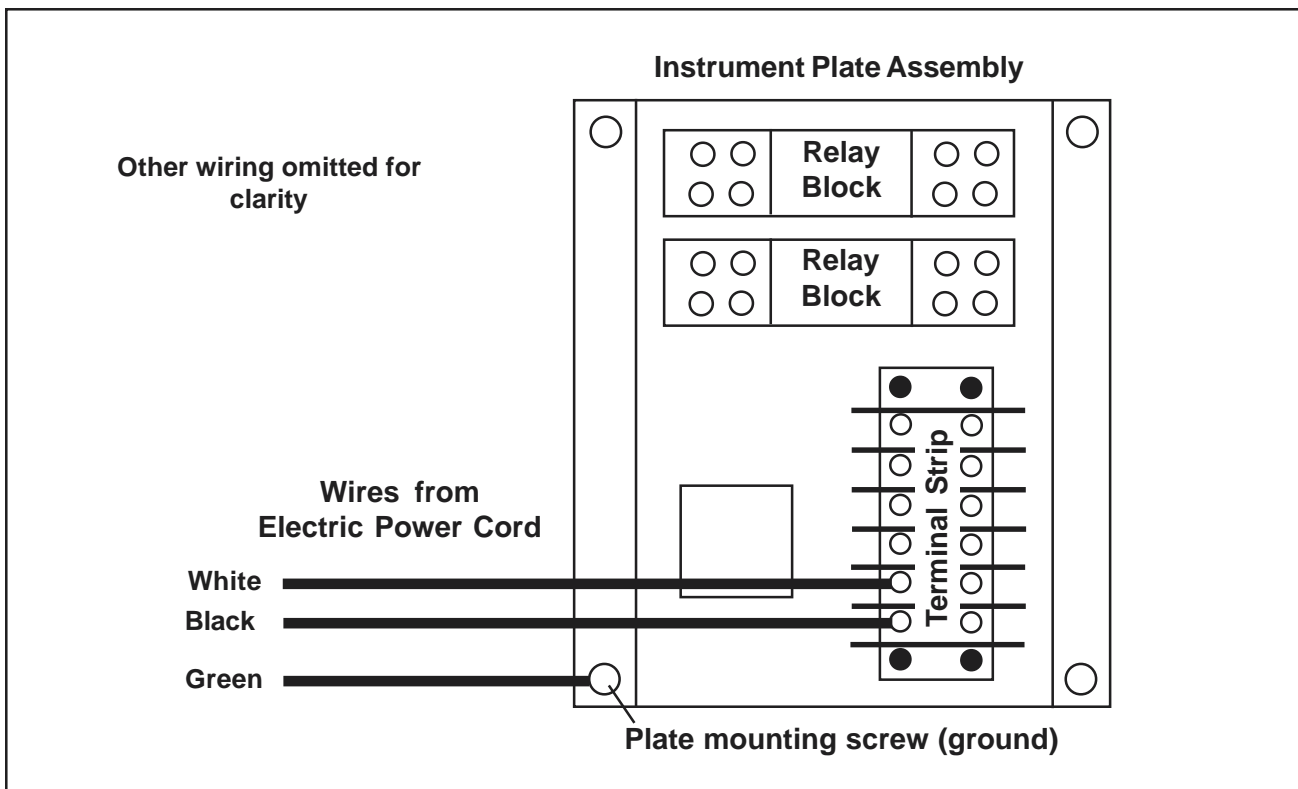

Figure 39. Electric Power Cord Wire Connections to the Instrument Plate Assembly
Electric Power Cord Wires (refer to Figure 39)
4. With a Phillips screwdriver, remove the green power cord wire from the mounting screw (ground) on the instrument plate assembly (Figure 39).
5. With a Phillips screwdriver, disconnect the white power cord wire from the terminal strip on the instrument plate assembly (Figure 39).
6. With a Phillips screwdriver, disconnect the black power cord wire from the terminal strip on the instrument plate assembly (Figure 39).
4. Connect the green power cord wire to the mounting screw (ground) on the instrument plate assembly (Figure 39).
5. Connect the white power cord wire to the terminal strip on the instrument plate assembly (Figure 39).
6. Connect the black power cord wire to the terminal strip on the instrument plate assembly (Figure 39).